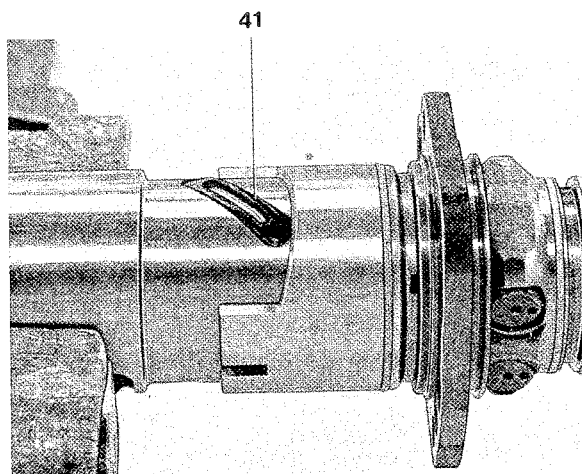
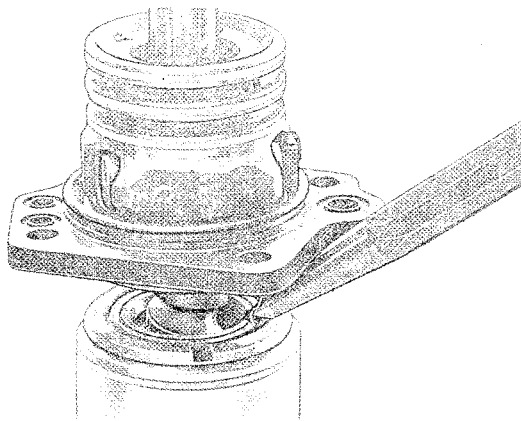

Fig. 6-87. Gasket installed
Fig. 6-88. Locking the ring
balls, see under point 7. Install the gasket (41), see Fig. 6-87. Assemble the piston and sleeve and fit the pin (23), if it was removed. The sleeve recess should be on the tooth side, see Fig. 6-88. Warning! The worm must not be pulled so far out of the pistons that the balls fall out (into the piston). Pull out the ring (27) and lock it, see Fig. 6-88. Protect the worm from any metal filings.